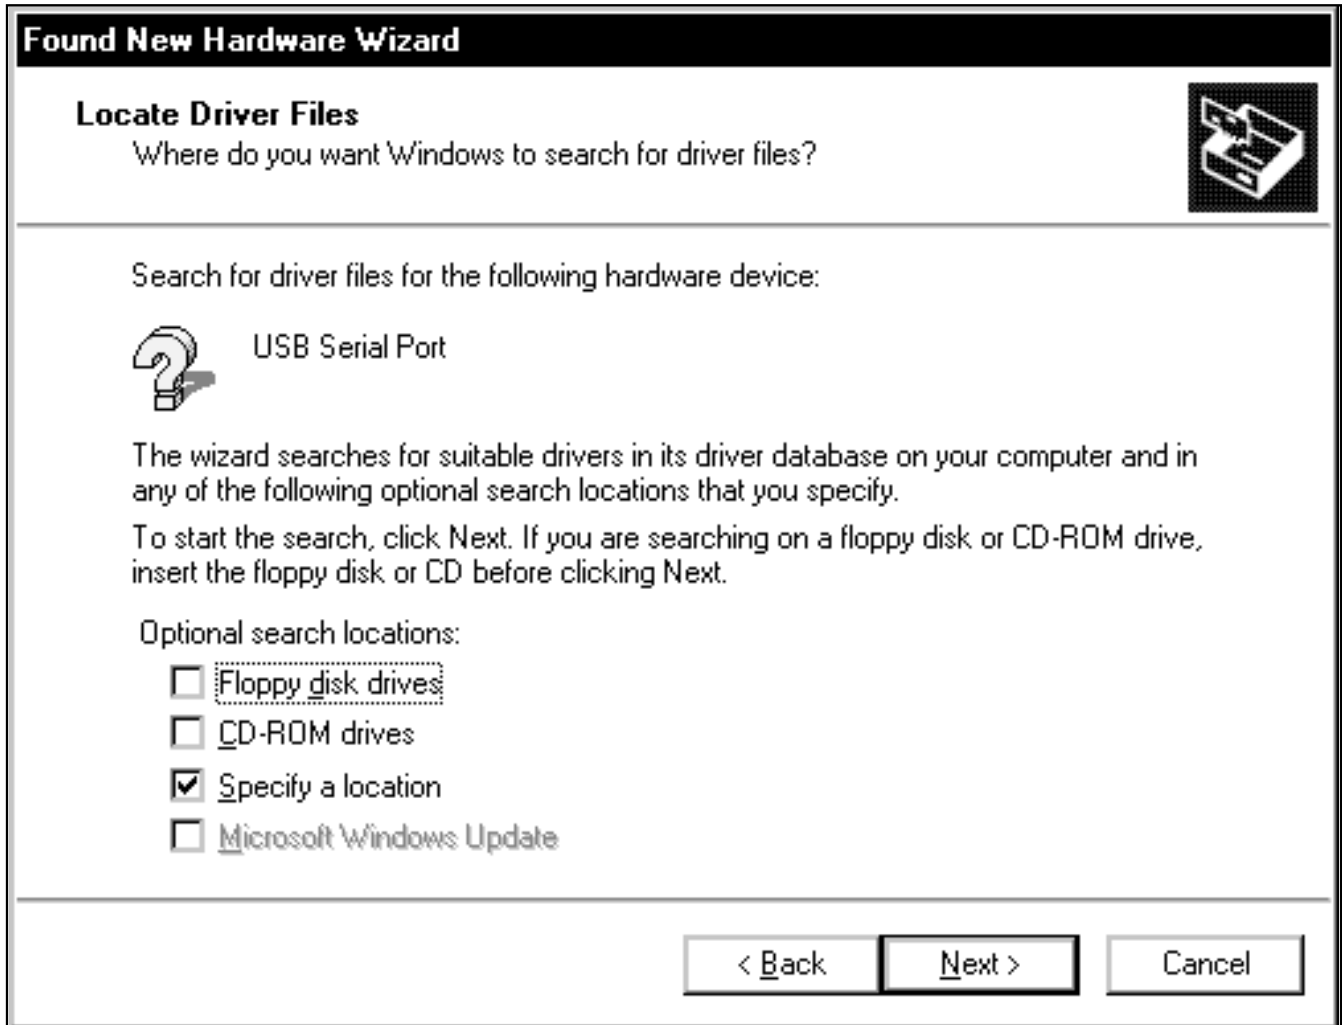

Figure 19. Windows 2000: **Found New Hardware Wizard | Locate Driver Files** Window
- 11) The **Found New Hardware Wizard | Locate Driver Files** window (Figure 19) appears. Check the **Specify a location** checkbox and press the **Next** button when finished.